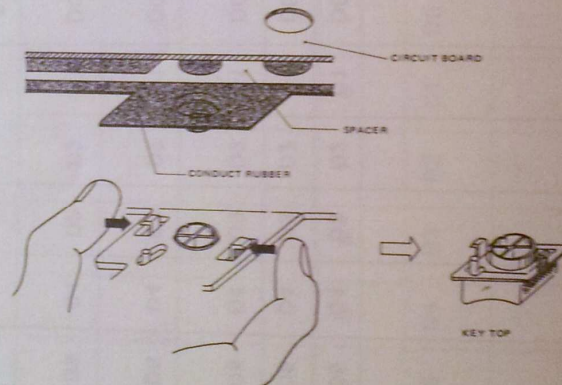

Fig. 5-1 REMOVING KEY TOP
- 2) To remove a keytop, unhook the two diagonal hooks while the upper housing is lifted-up so that the key top will drop down by itself when the two hooks are released as shown in Fig. 5-1.